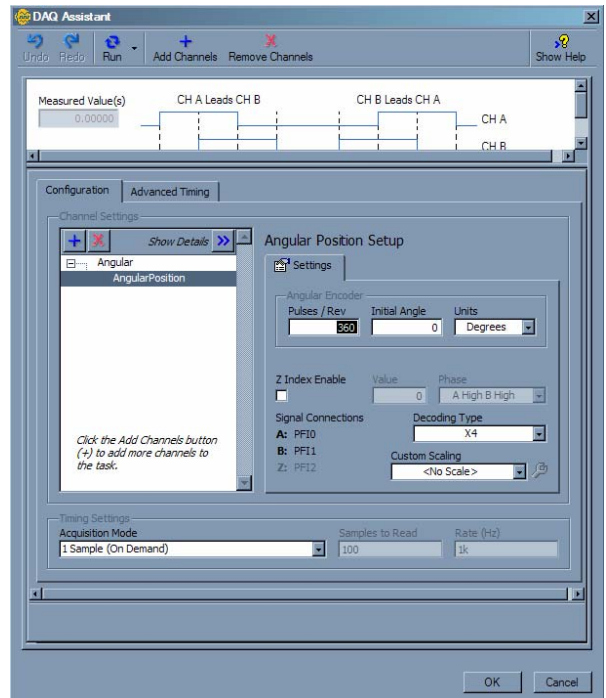

**Figure 3A:** Choose Position - Angular
**Step 3:** Complete the block diagram by adding the DAQ Assistant control. Right Click – Measurement I/O – NI-DAQmx – DAQ Assist will bring up the screen (**Figure 3A**). Choose Acquire Signals and then select Counter Input – Position – Angular.